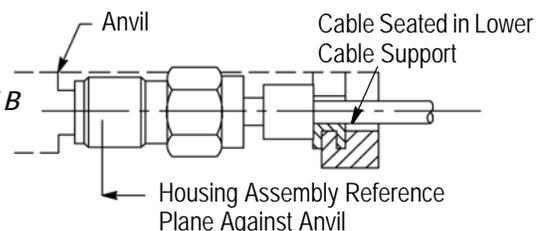

Figure 3
- Insert the center conductor through the bushing and into the center contact (inside the housing assembly) until the jacket bottoms on the internal shoulder in the housing assembly. See Figure 3, Detail A.
- Position the jack assembly in the crimp tool so that the reference plane of the housing assembly is against the anvil and the cable is seated in the lower cable support. See Figure 3, Detail B. Actuate the tool.